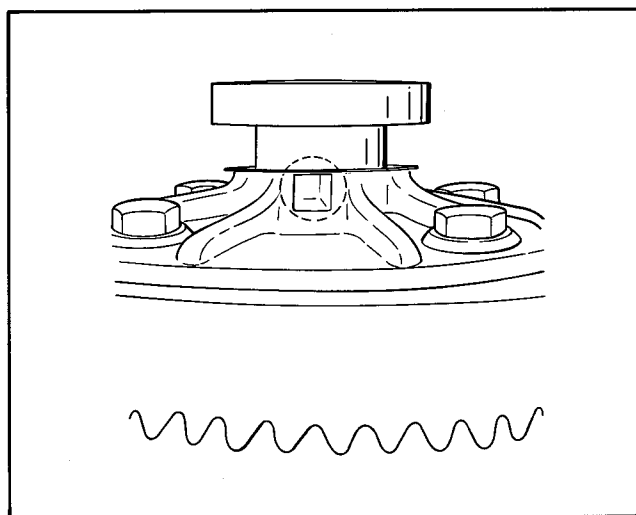
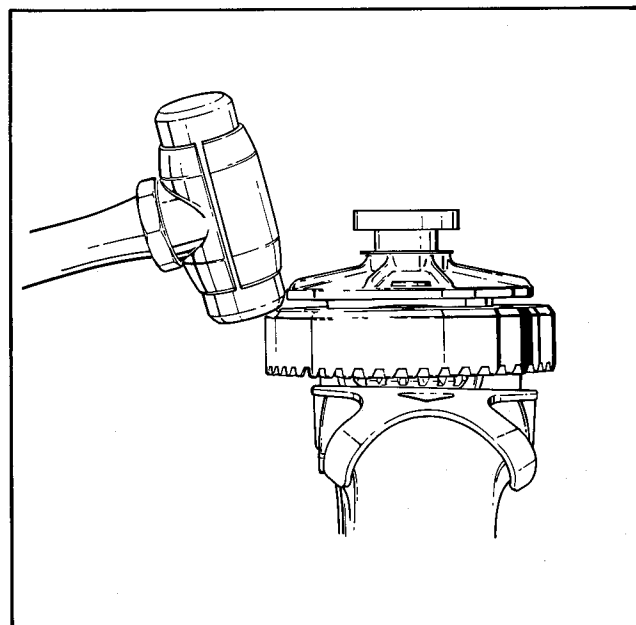

Figure 4-21 - Recess For Puller
Figure 4-22 - Removing Ring Gear
- g. Remove bearings (22) if they are worn or damaged. (Do not remove differential bearings unless bearing failure is evident.) If removal is necessary, care must be taken to ensure that bearing puller jaws are located in cast recesses of differential case so the puller jaws will apply their force to the inner bearing race and not the bearing cage, Figure 4-21.
- h. Remove shims (17). Band or wire shims together to avoid losing them.
- i. Remove bolts (33) and nut (34) from ring gear (13).
- j. Use a soft hammer to tap ring gear from ring gear carrier, Figure 4-22. Be careful not to damage ring gear teeth.